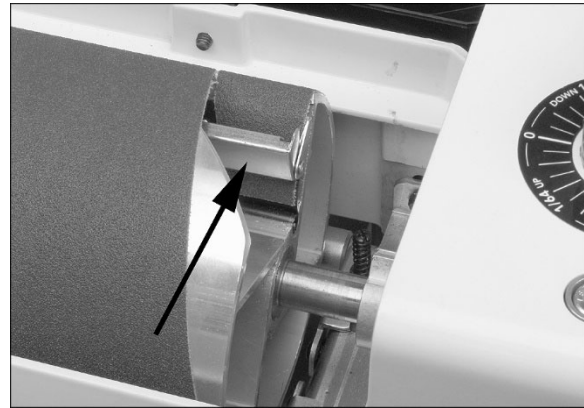

Figure 5-6
- Press inboard take-up lever (Figure 5-6) and insert trailing end of strip as far as it will go. If necessary, trim tapered end of abrasive strip.